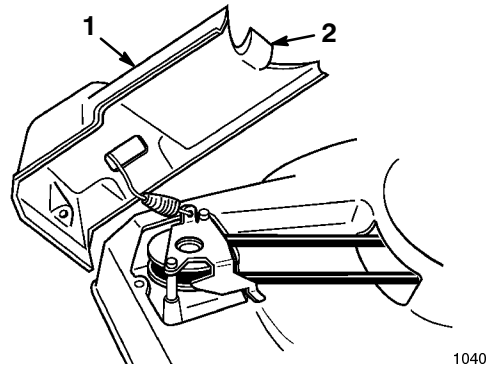

Figure 26
2. Tilt the cover up to the side and remove the debris from under the cover and the pulley groove (Fig. 26).